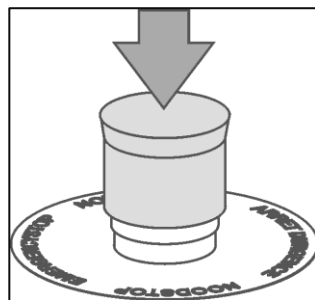

Fig. 5-1
1. Press on the red cap of the emergency stop switch (Fig. 5-1).
1. Press on the red cap of the emergency-stop switch (Fig. 5-1).